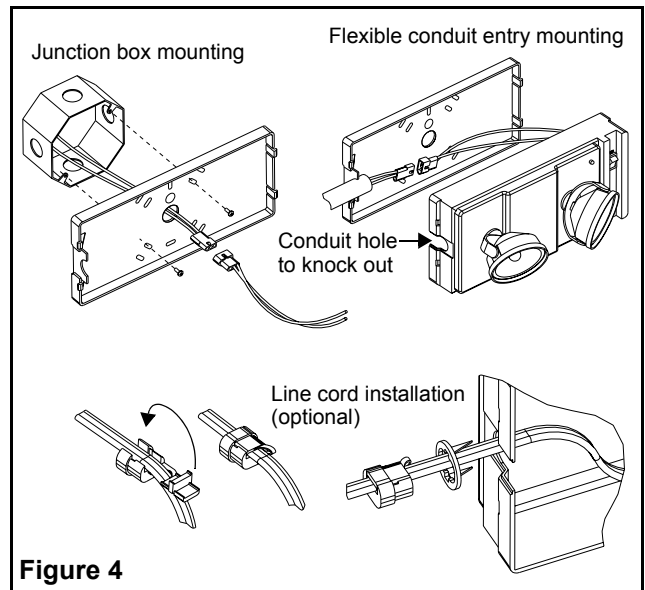

Figure 4
- a. For standard junction box mounting, knock out the desired hole pattern in the backplate. Route the connector through the large knockout and mount the backplate to the junction box (see fig. 4).
- a. For conduit entry, mount the backplate to the wall. Break out the conduit hole on the housing (see fig. 4). Assemble the conduit to the backplate.
- a. Mount the backplate to the wall. Slide the metal adaptor over the line cord before making the connections described at step 3. Install the strain relief (see fig. 4). Using pliers, crimp strain relief onto the line cord. Keeping pressure on the pliers, slide the oval adaptor over the strain relief until it snaps. Insert the strain relief/adaptor assembly in the knockout hole on the housing and fold the two tabs from the adaptor onto the housing.